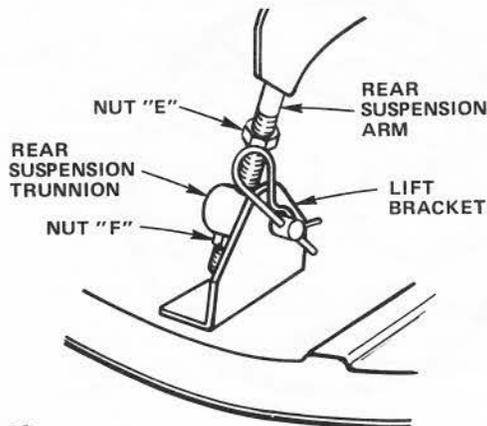

FIGURE 18
2. To raise rear of mower, loosen Nut "E" on both Rear Suspension Arms. Screw both Nuts "F" up EQUAL NUMBER OF TURNS (Fig. 18).
4. To lower rear of mower, loosen Nut "F" on both Rear Suspension Arms an EQUAL NUMBER OF TURNS (Fig. 18).